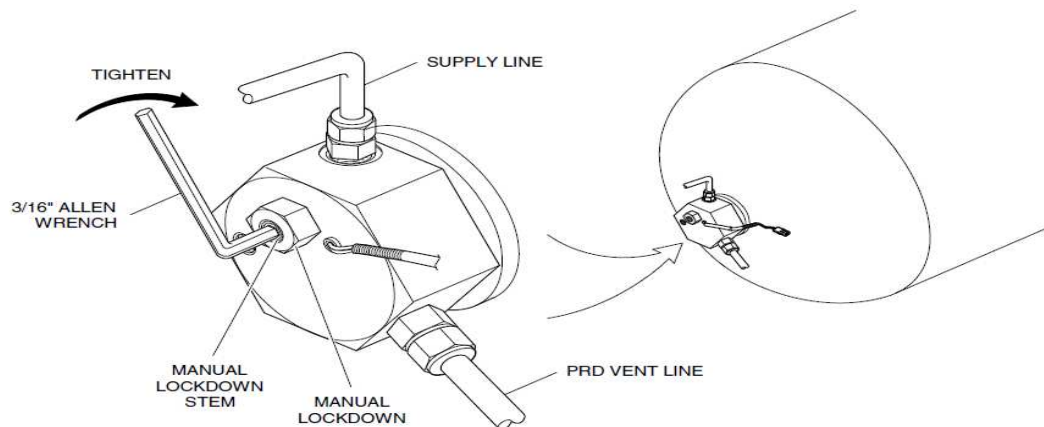

Figure 2: Manual Lock Down
- b. Close all solenoid manual shut-off valves with a 3/16" Allen key. Torque the lockdown stem (3/16" Allen or socket hex) to 60-84 in-lb. Figure 2.